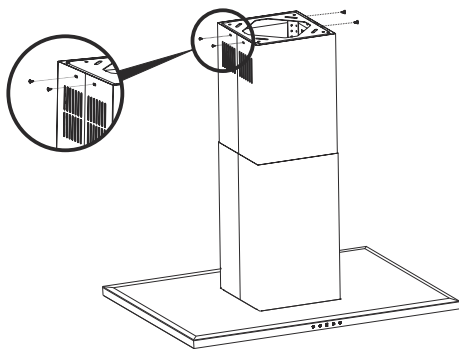

Fig. 15
**2.** → Fix the perforated internal flue on both sides on the ceiling connection plate with 4 screws (Fig. 15).